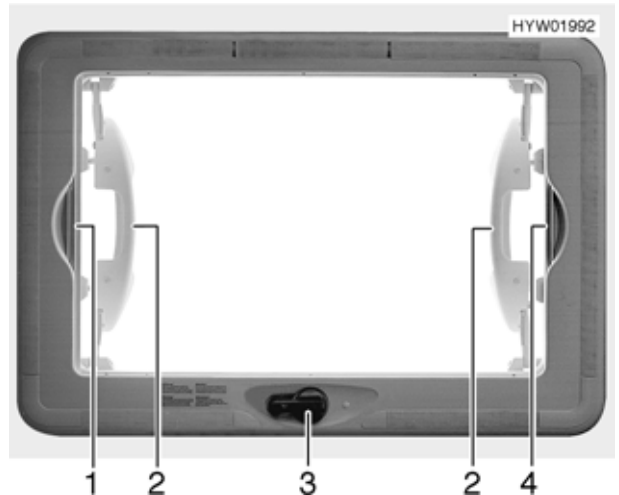

Fig. 57 Lift-tilt skylight
- Rotate the manual crank (Fig. 57,3) until a resistance can be felt (max. opening angle 70°).
- ▷ The lift-tilt skylight is only to be operated with both hands on the handles (Fig. 57,2).
- Pull Roman shade at the handle (Fig. 57,1) to the opposite handle of the insect screen (Fig. 57,4) and allow to engage.
- Unhook handle of the Roman shade (Fig. 57,1).
- Pull insect screen at the handle (Fig. 57,4) to the opposite handle of the Roman shade (Fig. 57,1) and allow to engage.
- Unhook insect screen at the handle of the Roman shade (Fig. 57,1).
- Use handle (Fig. 57,4) to slowly return the insect screen.